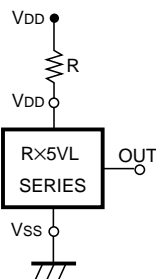

FIG. 8
1. When R5VL~~⊗~~ (CMOS Output) is used in FIG. 8, this IC may oscillate by the through-type current at the detection when impedance is connected between Power Source VDD and R5VL VDD Pin. When R5VL~~⊗~~ (Nch Open Drain Output) is used in FIG. 8, and R becomes excessively large, Detector Threshold may be varied because of the voltage drop of the supply current in the IC itself.